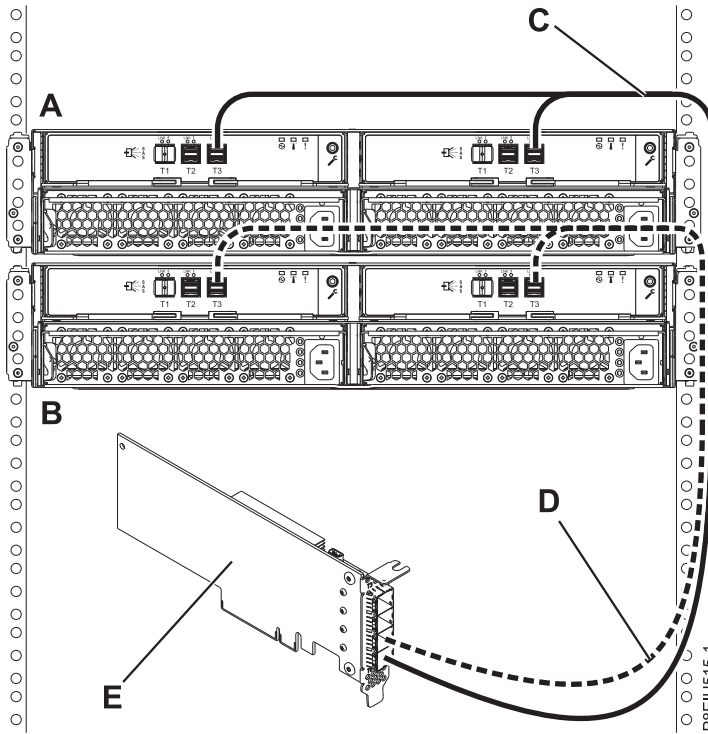

Figure 15. Mode 1 connection of two ESLL and ESLS storage enclosures by using YO12 cables to a single FC EJ0J or FC EJ0M SAS adapter
- Complete a mode 1 connection of two enclosures (**A and B**) by using YO12 cables (**C and D**) to a single FC EJ0J or FC EJ0M SAS adapter (**E**), as shown in Figure 15 on page 16, and then continue with “Connecting cables, power cords, and installing covers” on page 22.